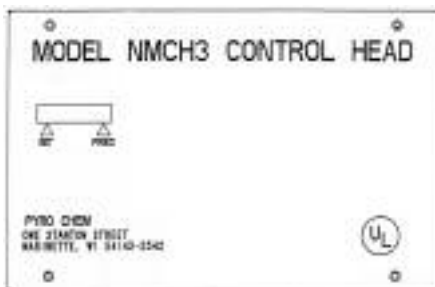

Figure 2-6a. Mechanical Control Head.
The Model NMCH3 Mechanical Control Head is a fully mechanical control head which can be connected to the PCI-15/17/25s/35/50s/70 cylinder valve. This control head will support a fusible link detection system, a remote mechanical pull station (Model RPS-M), and a mechanical or electric shut-off valve. A micro switch (Model MS-SPDT, MS-DPDT, MS-3PDT, or MS-4PDT) can be ordered separately and field installed. There is no local manual actuation for the Model NMCH3. The Model NMCH3 control head can actuate a maximum of five (5) cylinders. See **Figure 2-6a**.